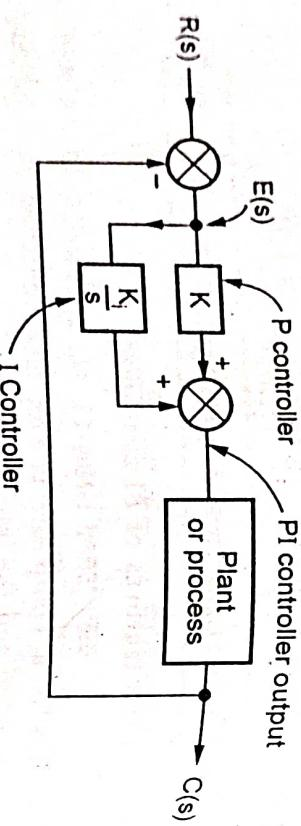

Fig. Q.6.1 PI controller
- The Fig. Q.6.1 shows the block diagram of PI controller.